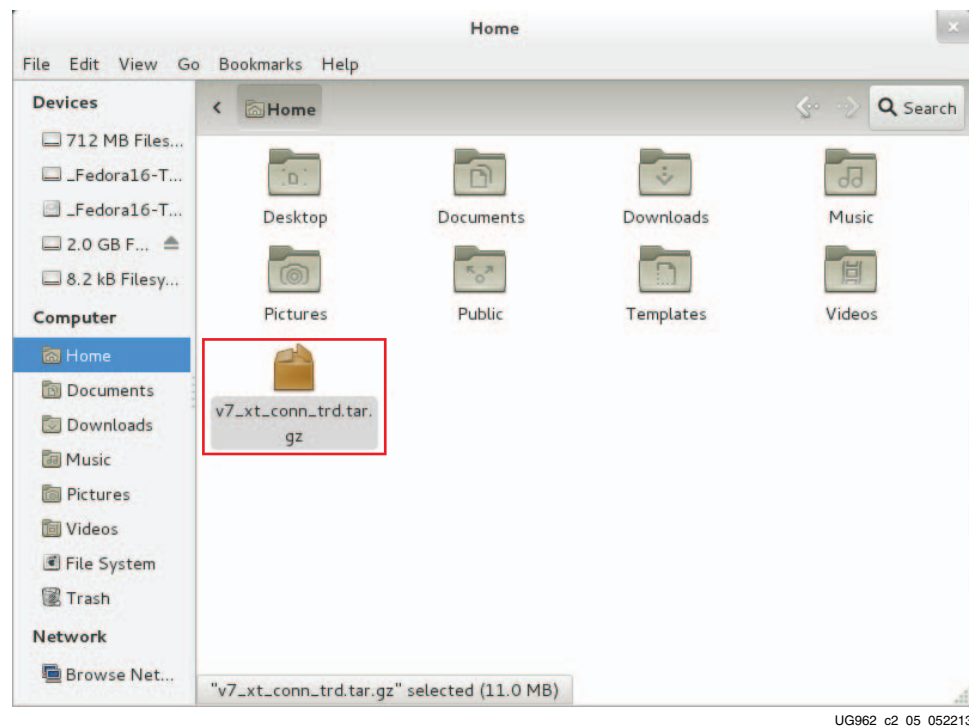

Figure 2-7: TAR File In Home Folder
3. Click the **Home** folder on the left side of the screen to open the folder. Right-click `v7_xt_conn_trd.tar.gz` (Figure 2-7) and select **Extract Here**.